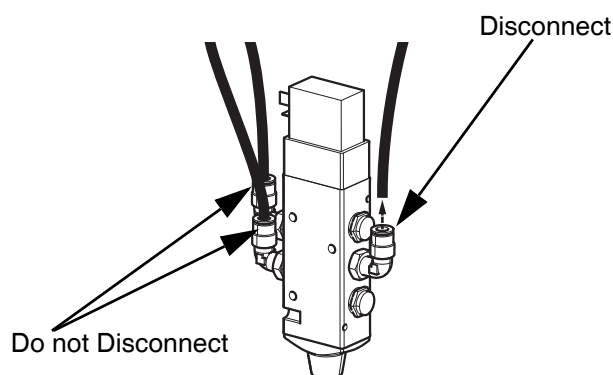

FIG. 3: Dispense Solenoid Valve
4. At the dispense solenoid valve, disconnect only the 1/4 in. air line tube from the air manifold as shown in Figure 3.